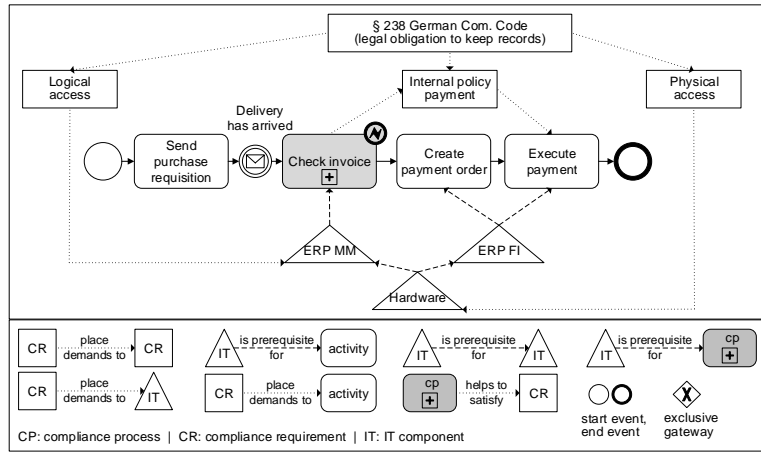
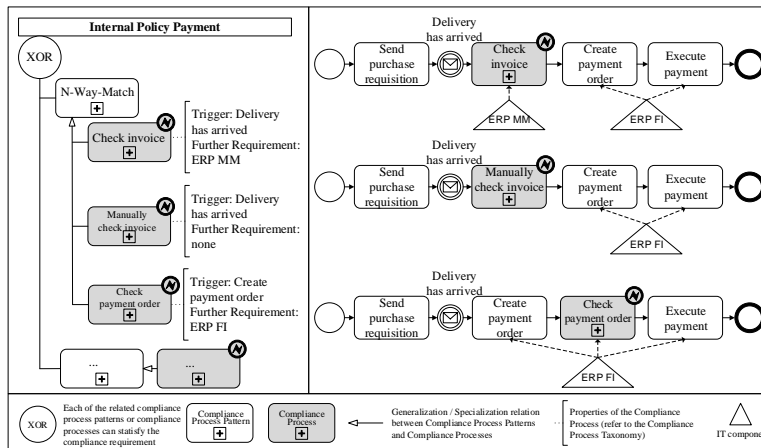

Fig. 1. Motivation scenario
Fig. 2. Alternative compliance processes and recommended compliant purchase to pay processes
The goal of this tutorial is to (1) demonstrate the feasibility of modeling the motivation scenario introduced in the paper and (2) to demonstrate the feasibility of modeling the interrelations of alternative compliance processes and their integration into the business process (Figure 1 & Figure 2).